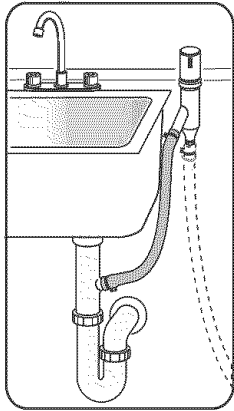

Figure 24
- 3) To the undersink dishwasher drain connection through an air gap, as shown in Figure 24.